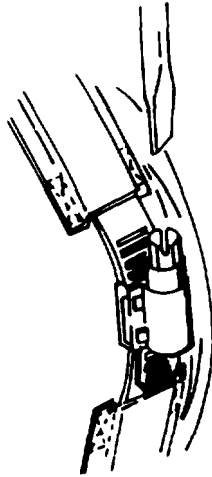

Figure 4-4. Method of Tightening Clamp
(4) Insert the serrated end of the strap under the screw at the other end such as to engage the screw threads onto the serrations (figure 4-4).
(5) Tighten the screw sufficiently to clamp the 7-foot duct securely onto the return fitting adapter port flange. Do not overtighten; the duct will carry airflow at a relatively low pressure.
(6) Repeat steps (3) through (5) as necessary to attach the 9-foot flexible duct to the supply fitting.